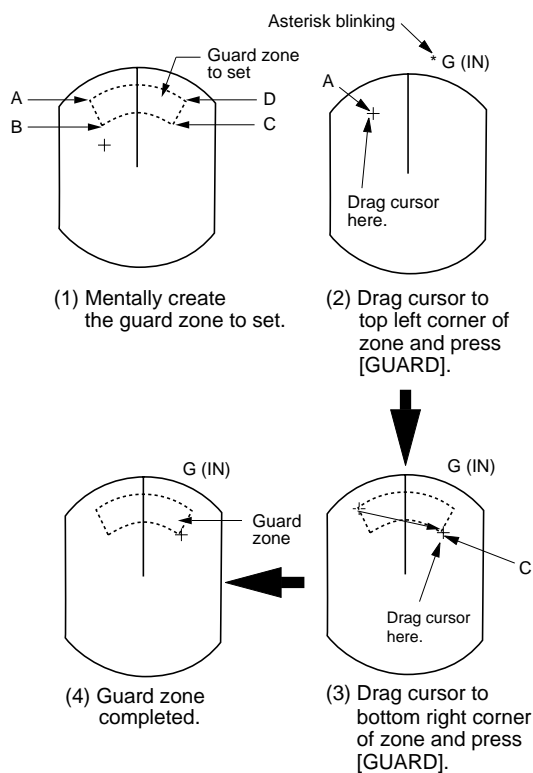

Figure 3-8 How to set the guard zone
2. Operate the omnipad to set the cursor on point A or B. Press the [GUARD] key. “*G (IN)” or “*G (OUT)”, with asterisk blinking, appears at the top right-hand corner of the display. See Figure 3-8 (2). (The asterisk indicates the guard zone is partially set.)
3. Operate the omnipad to set the cursor on point C or D. See Figure 3-8 (3).
4. Press the [GUARD] key. The asterisk disappears. See Figure 3-8 (4).